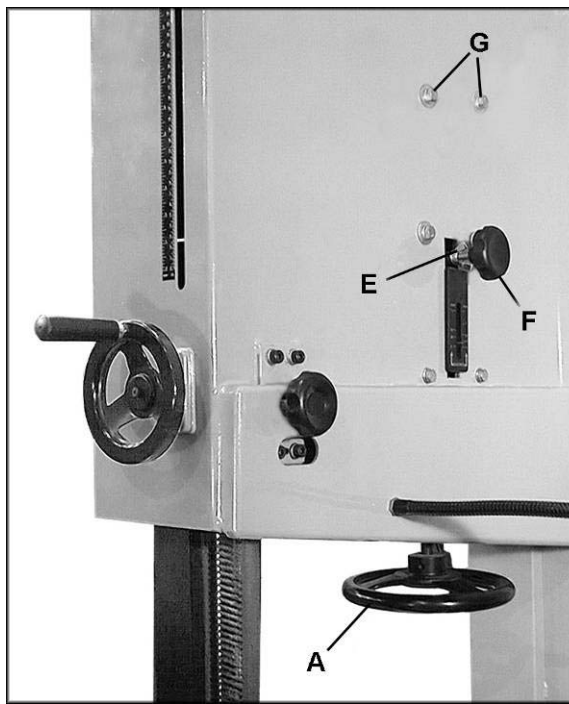

Figure 15
IMPORTANT: Make tracking adjustments with knob (F, Figure 15). DO NOT use screws (G, Figure 15); these were used by the manufacturer for wheel alignment and should NOT be used for blade tracking.
4. If the blade tends to move toward the edge of the wheel, loosen wing nut (E, Figure 15) and slightly rotate knob (F, Figure 15). Rotating the knob clockwise will cause the blade to move toward the rear edge of the wheel. Rotating the knob counterclockwise will cause the blade to move toward the front edge of the wheel.
5. When the blade is tracking properly in the center of the wheel, re-tighten wing nut (E, Figure 15).